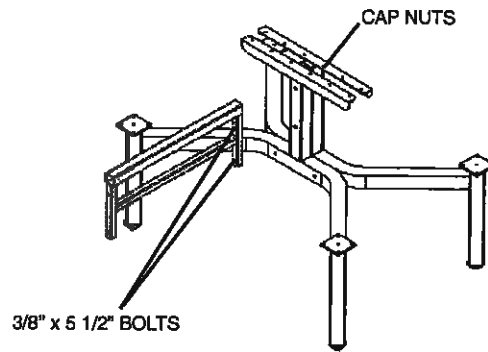

fig. 2
2. Insert (1) 3/8" x 6 3/4" threaded rod into the top hole of the vertical support tubes, slide the cantilevers on threaded rods and tighten using 3/8" cap nut. (fig.2)
3. Insert (1) 3/8" x 6 1/2" bolt into lower cantilever frame hole and frame. (fig. 2)
2. Insert (2) 3/8" x 5 1/2" bolt into coupling assembly holes and vertical support tubes, and tighten using 3/8" cap nut. (fig.2)